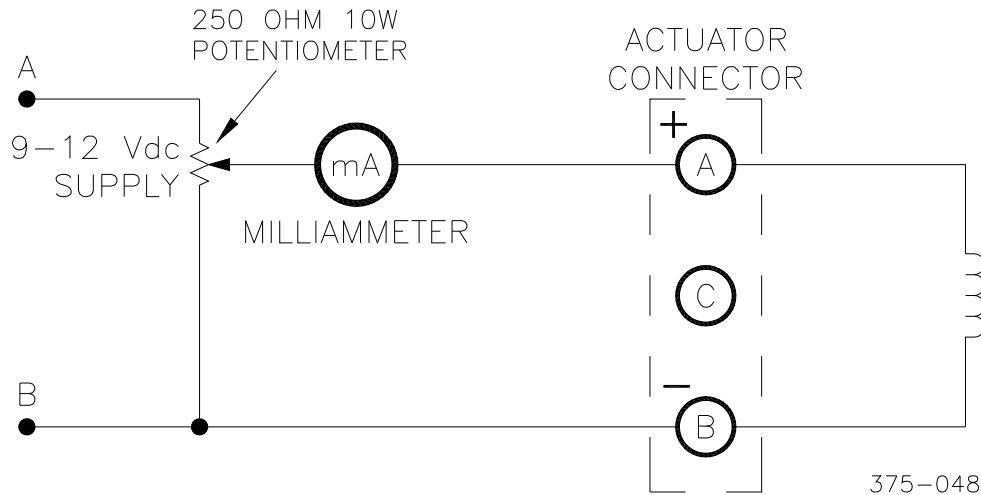

Figure 5-1. Wiring for Test Circuit
7. Connect the circuit in Figure 5-1 to the actuator.